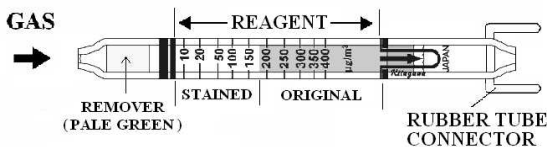

Fig.1
- ② Connect the detector tube into the rubber tube connector of the Model S-20 series air sampler as shown in Fig. 1 (Arrow mark shall point to the sampler.), and fix it into the detector tube holder.
- ③ Turn ON power of the air sampler.
- ④ In accordance with instruction manual of each air sampler, preset the TIMER at 60 minutes and adjust the flow rate at 200mL/min.
- ⑤ After completion of sampling (60 minutes), remove the detector tube from the tube holder and read the scale at the maximum point of a stained layer. True concentration of Acetic acid and / or Formic acid can be obtained after temperature correction respectively.
- ⑥ When the concentrations are over the scale range (400 $\mu\text{g}/\text{m}^3$), 30 minutes sampling time can be used to determine these higher concentrations.